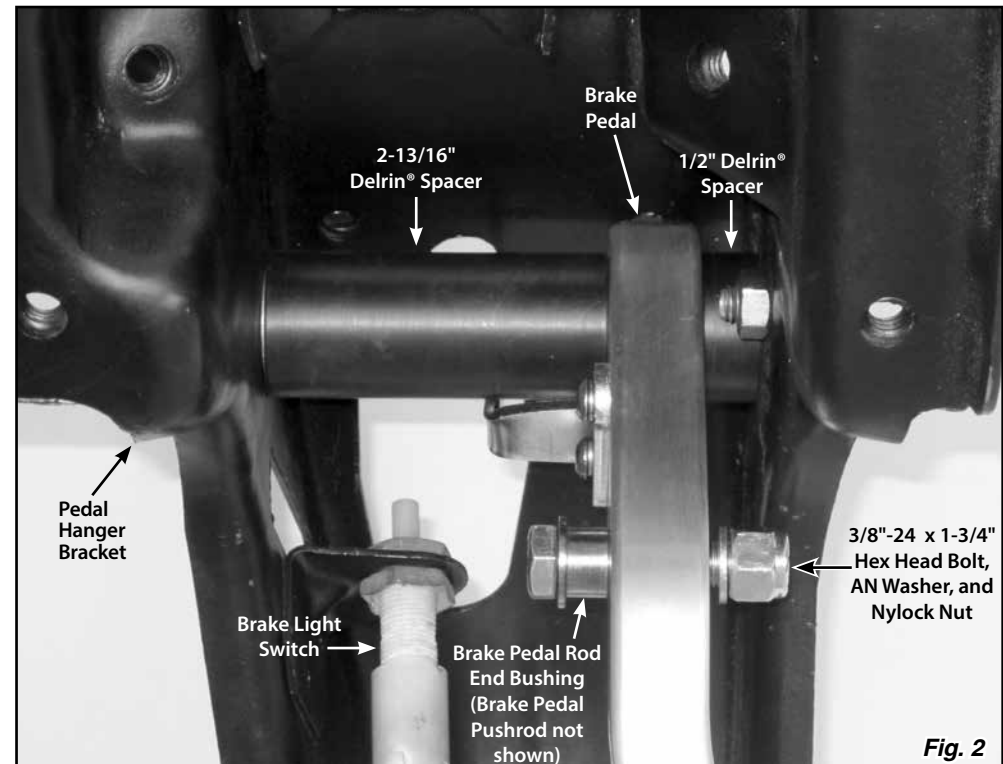

Fig. 2
**Step 5:** Install the brake pedal rod end bushing onto the 3/8"-24 x 1-3/4" hex head bolt, with the shoulder on the bushing against the bolt head. Insert the bolt and bushing through the brake pedal pushrod and the Brake Pedal, and install the 3/8" AN washer and nylock nut. **Fig. 2**